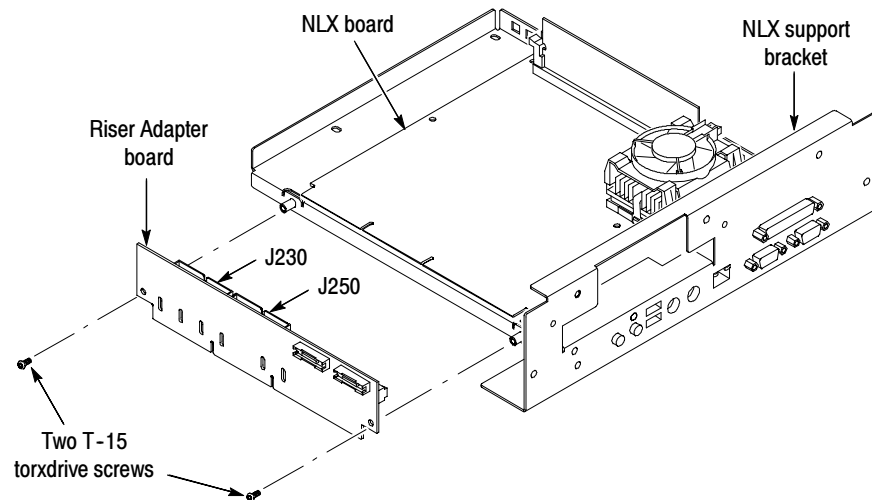

Figure 6: Riser Adapter & NLX board removal
4. *Remove the Riser Adapter board:* See Figure 6, page 17.
2. *Install the Riser Adapter board:* See Figure 6, page 17.